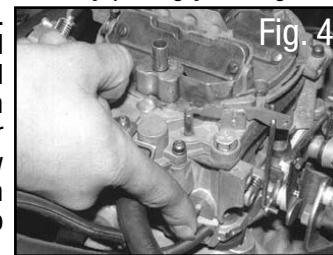

Fig. 4
3. Determine if the distributor vacuum port is timed (no vacuum at idle) or full (vacuum present at idle). With the engine at operating temperature and idling, pull the vacuum advance hose off of the carburetor and "feel" for vacuum by putting your finger on the vacuum port (See Fig. 4). If your distributor has timed vacuum advance, you will hook the vacuum hose from the distributor to the passenger side vacuum port on the new carburetor. If it has full vacuum advance, it will be hooked up to the driver side port.